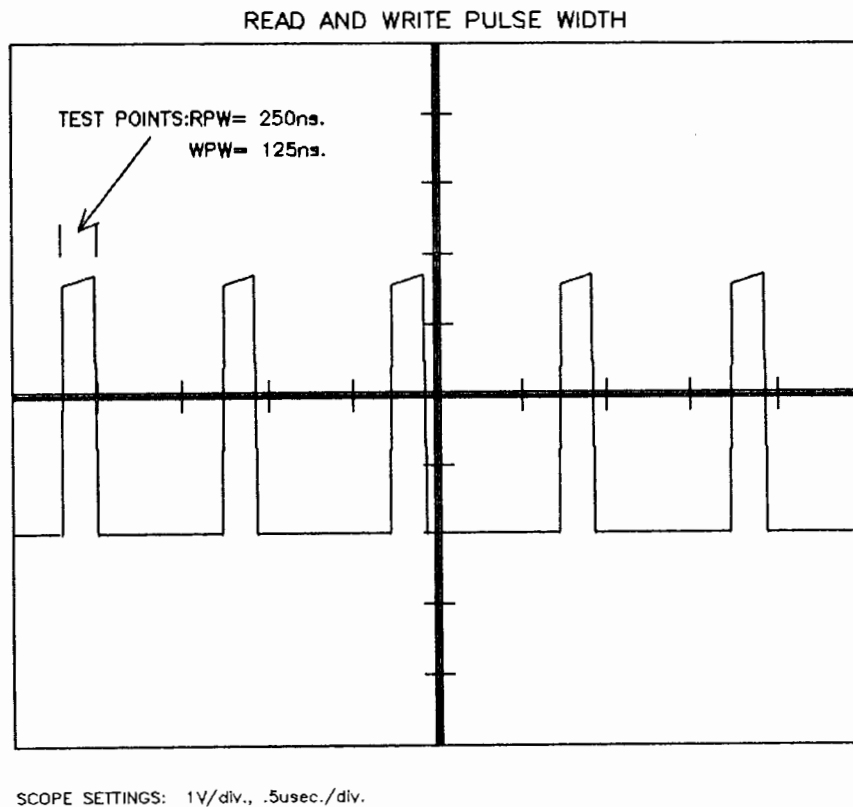

Figure 4-2
1. Set jumper JMP1 to the test (T) position.
3. Observe the waveform pulse-width (see FIGURE 4-2). The pulse width should be 250 ns. \pm 10%.
6. Return jumper JMP1 to the (R) position.